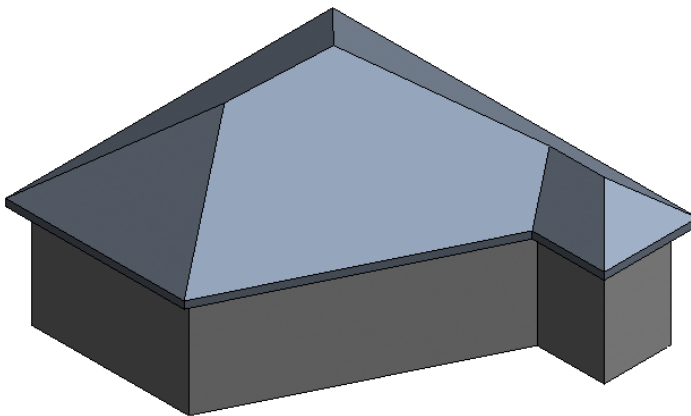

FIGURE 3.26 Attaching the walls to the roof
5. Finish the sketch. Initially, the edges of the wall extend beyond the overhang of the roof. Select all the exterior walls (use the Tab key), and then select the Attach Top/Base option on the Modify | Walls tab. Click the roof to attach it, and the result resembles Figure 3.26.